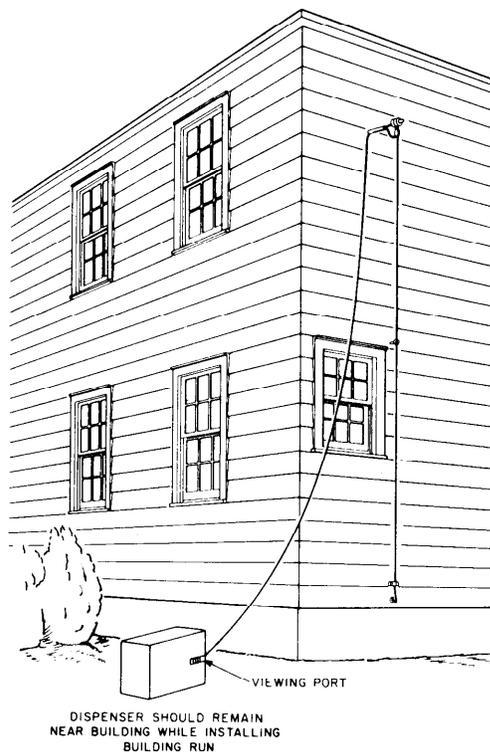

Fig. 3 - Drop Wire Attached to Building
- (a) Install the building attachment and secure the drop wire to this attachment. Complete building run and keep drop wire dispenser near the building to avoid accidents or damage to wire (Fig. 3).